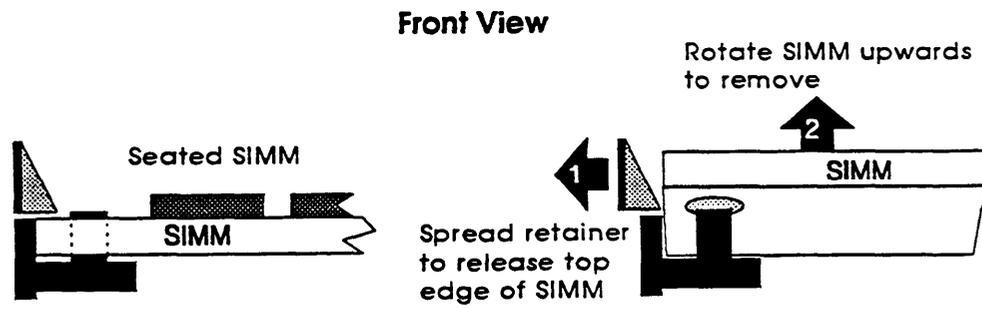

Figure 3-8. Removing SIMMs
2. Gently spread the retainers to release the top edge of the SIMM. Refer to Figure 3-8.